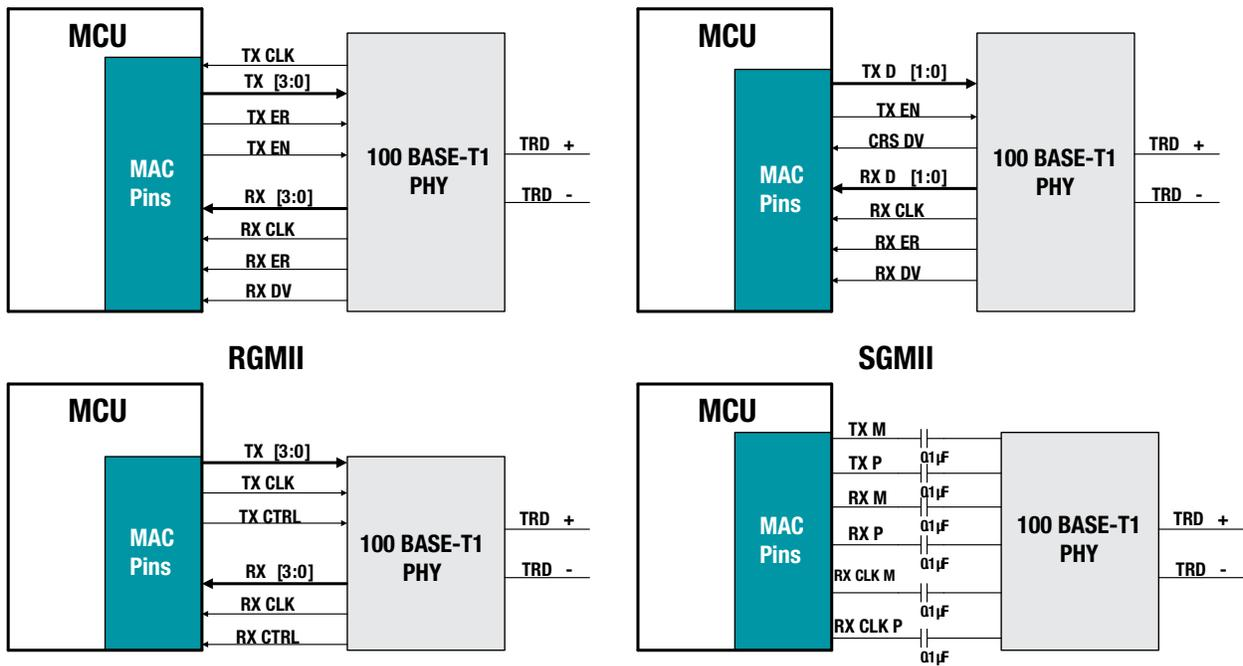

Figure 2. Various MIIs.
**Figure 2** shows the signaling of a MAC and PHY depending on the interface. After receiving data from the MAC, the Ethernet PHY encodes, scrambles and serializes the data [5]. These processes prepare the data for the analog front end of the PHY, which then transmits the data out onto the unshielded single twisted-pair cable to a link partner.